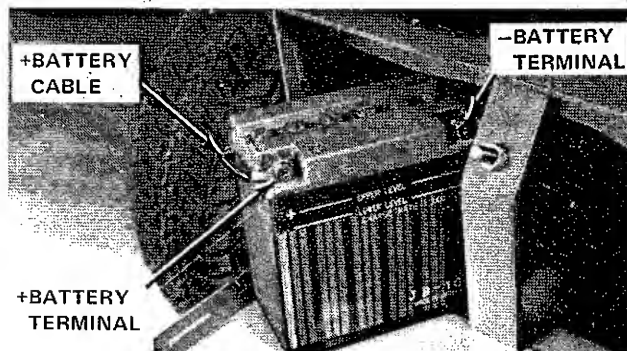

Figure 6-15. Battery Cables and Terminals
2. Slide battery from support and remove battery cables from terminals. (Figure 6-15).